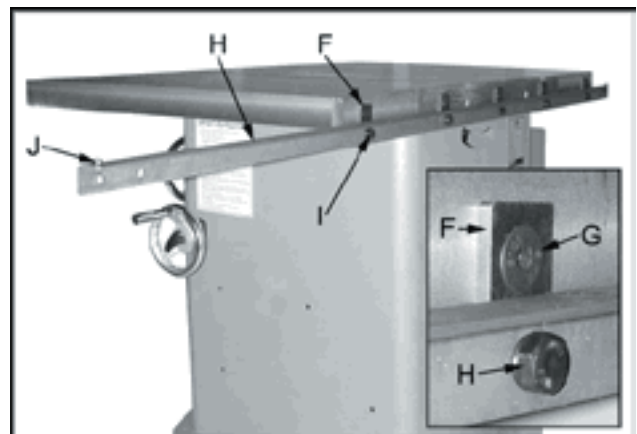

Figure 6
4. Mount the rear rail brackets (F, Figure 6) to the table with five M10x16 flat head socket bolts (G, Figure 6). Leave loose at this time.
5. Mount the rear rail (H, Figure 6) to the brackets with five M10 lock washers and five M10x20 hex head bolts (I, Figure 6).
6. Thread two M6x10 socket head cap screws (J, Figure 6) into the rear rail at both ends. They act as a stop for the fence.